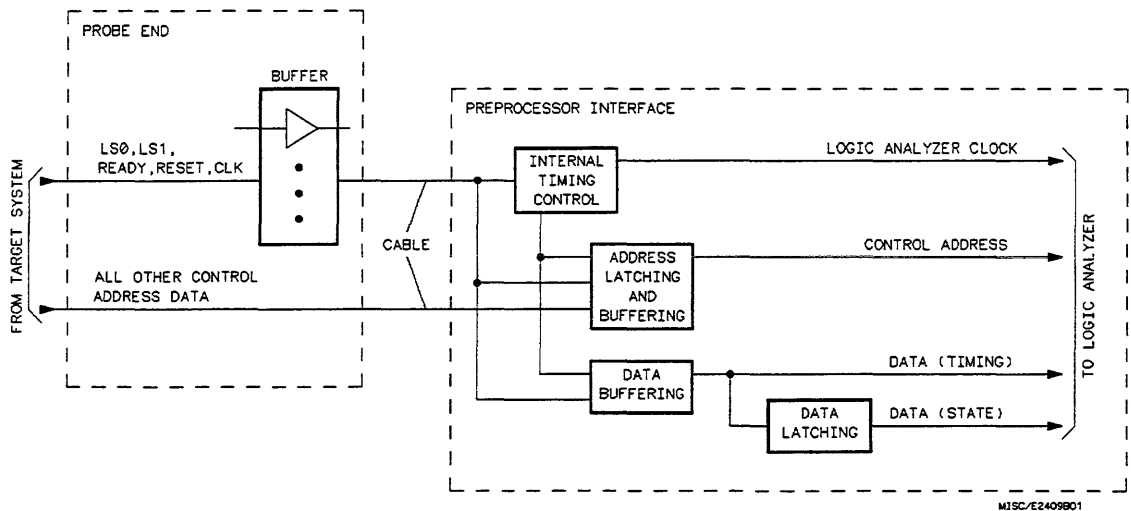

Figure 3-1. HP E2409A Block Diagram
- Generating the logic analyzer clock from the appropriate 80286 microprocessor signals and bus conditions. See figure 3-1 for a block diagram of the preprocessor interface.